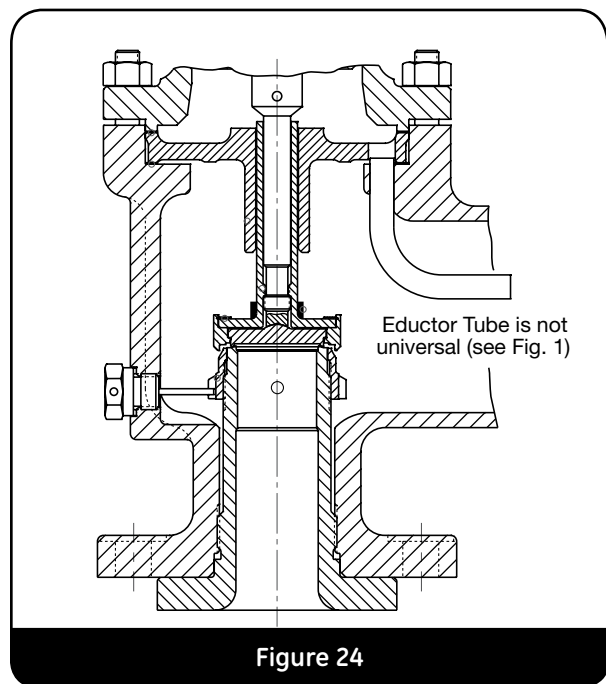

Figure 24
11. Install the spindle/disc holder assembly and guide by gently lowering into the valve base. Take care to align the hole(s) in the guide over the extended end of the eductor tube(s), refer Figure 24.